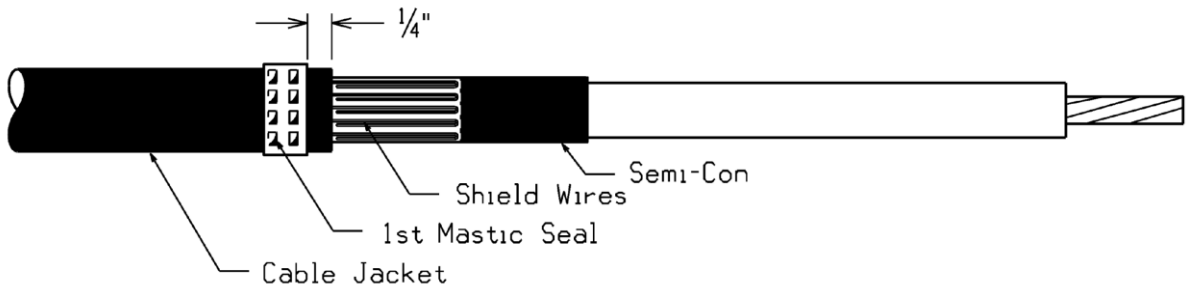

Figure 12
1. Select one of the mastic strips from termination kit and remove the white release liners. Using light tension apply a single wrap of mastic around the cable jacket ¼ inch from the cut edge. Cut off excess mastic. See Figure 12.